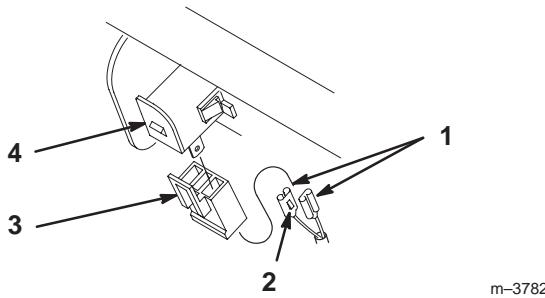

Figure 5
- Insert terminals into plastic plug until the clips snap into position (Fig. 5). If they do not snap, turn the plastic plug around and try again.
- Push plug onto switch until it latches (Fig. 5).